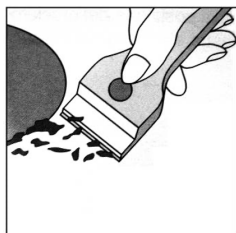

Fig. 1
• First, to remove all food residues or greases with a cleaning scraper, e.g. Cleaning scraper (not supplied) (Fig. 1).